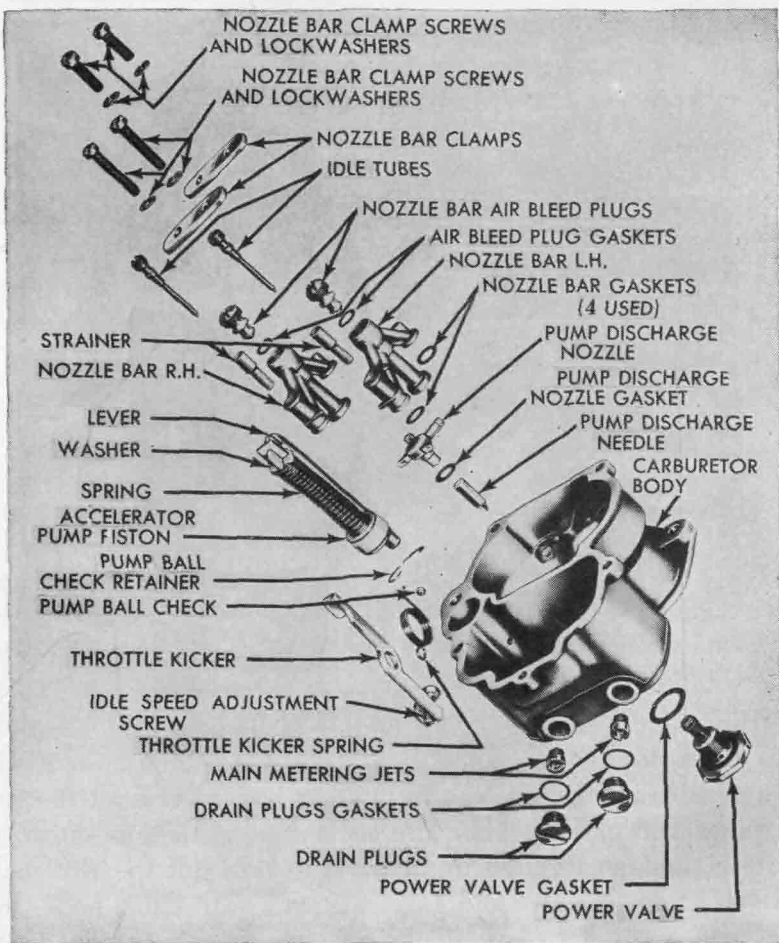
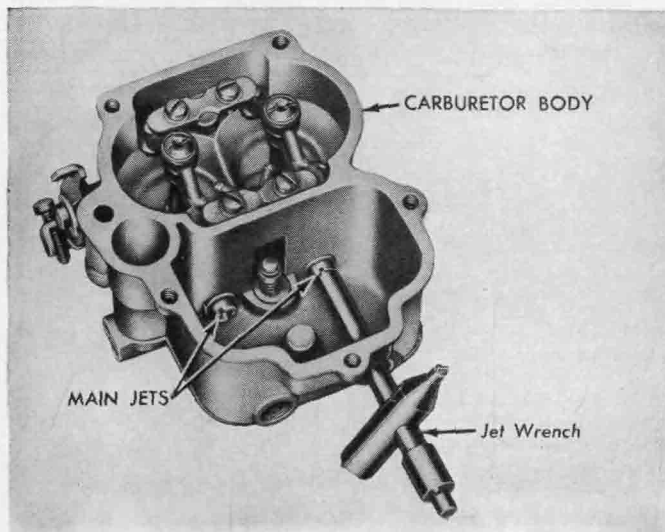

FIG. 10-27. Main body of carburetor in disassembled view. (Ford Motor Company)
FIG. 10-28. Using jet wrench to remove main jets. (*Ford Motor Company*)
2. *Disassembling main body* (refer to Fig. 10-27). Remove screws from nozzle-bar clamps, and take out clamps, pump discharge nozzle, and nozzle bars from main body. Take out the two drain plugs and gaskets. Then use special jet wrench as shown in Fig. 10-28, and go through drain holes to take out the two main jets. Remove power valve and gasket. Bend a wire into a hook, and extract pump check ball retainer. Turn main body upside down, and catch ball check and pump discharge needle.